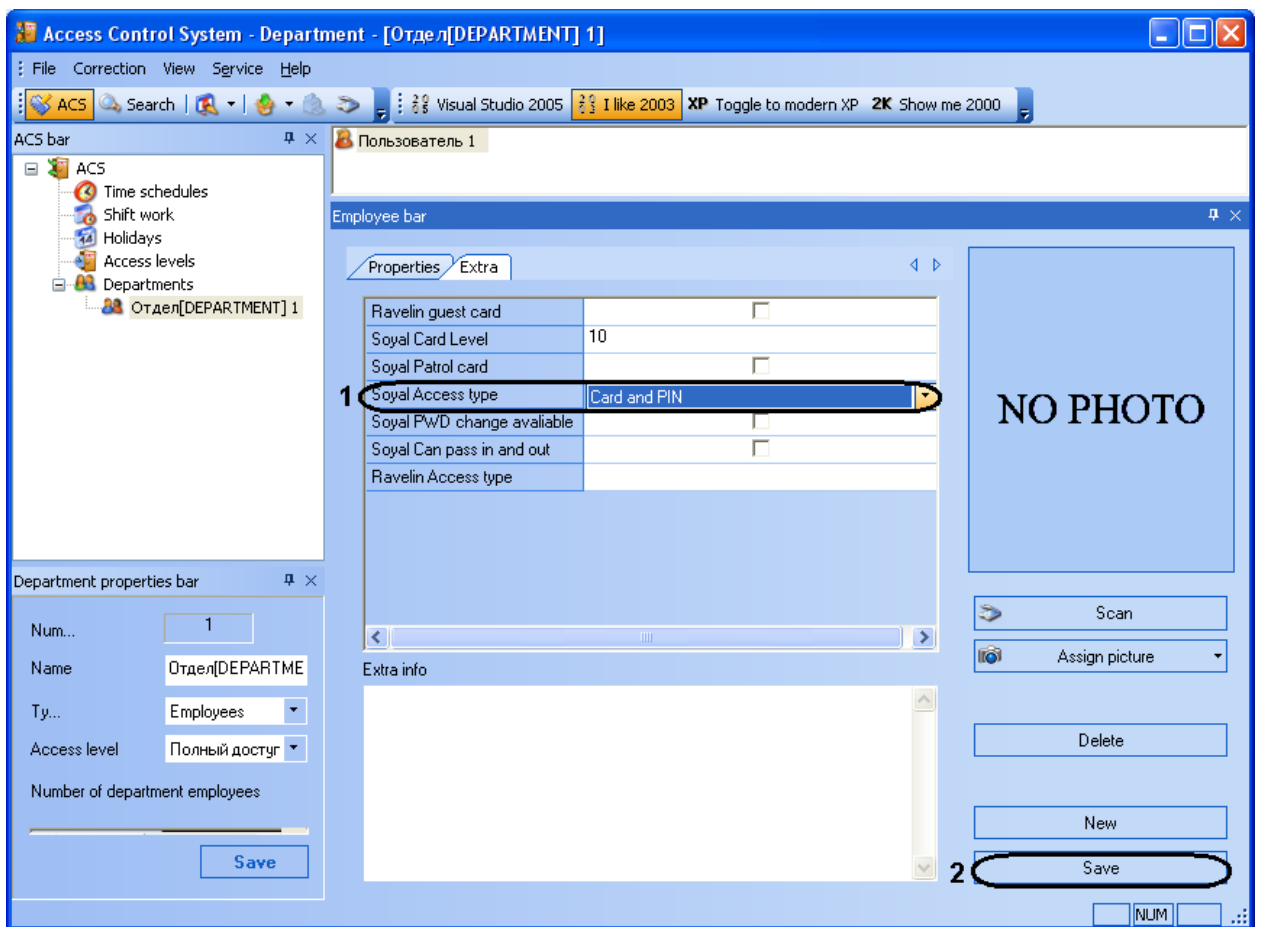

Figure 2.8—1 Extra tab of User settings panel
3. Go to the **Extra** tab of **User settings** panel (Figure 2.8—1).
4. From the **Soyal Access type** drop-down list select the required value for the user (Figure 2.8—1, 1). If none value is selected the access of the user will be denied.
5. Click **Save** to save changes (Figure 2.8—1, 2).